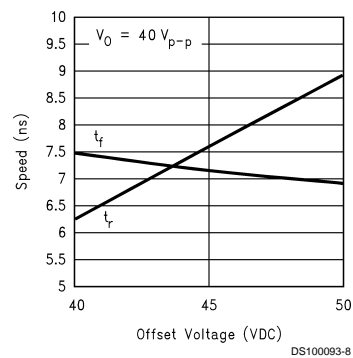

FIGURE 7. Speed vs Offset
*Figure 7* shows the variation in rise and fall times when the output offset of the device is varied from 40 VDC to 50 VDC. The rise time shows a maximum variation relative to the center data point (45 VDC) is about 20%. The fall time shows a variation of about 5% relative to the center data point.